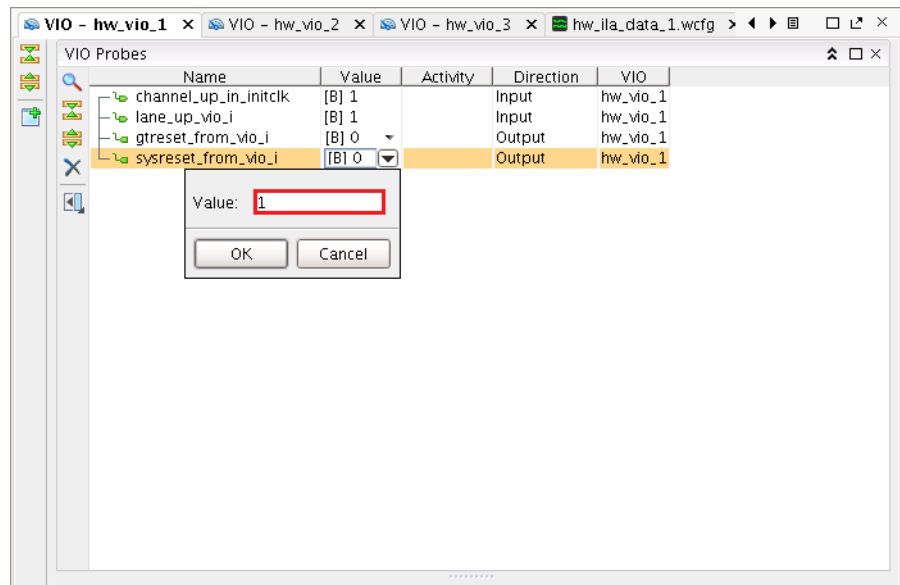

Figure 26: Toggle Reset Signals
- Toggle the reset signals by clicking the value field for each signal (See Figure 26). Enter 1 or 0 and click OK.